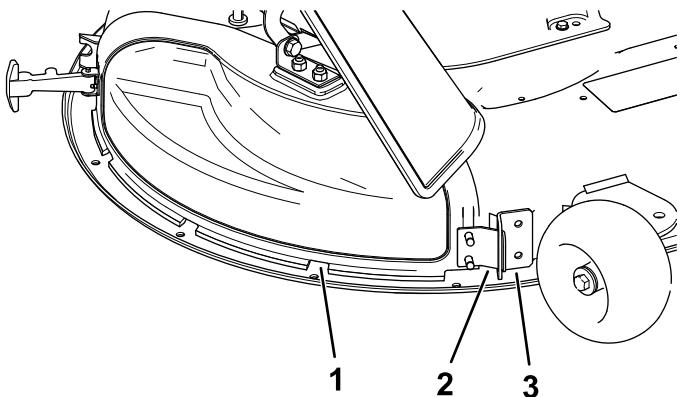

Figure 13
- Angle the metal tab on the discharge cover out of the slot in the bracket welded to the mower deck (Figure 13).